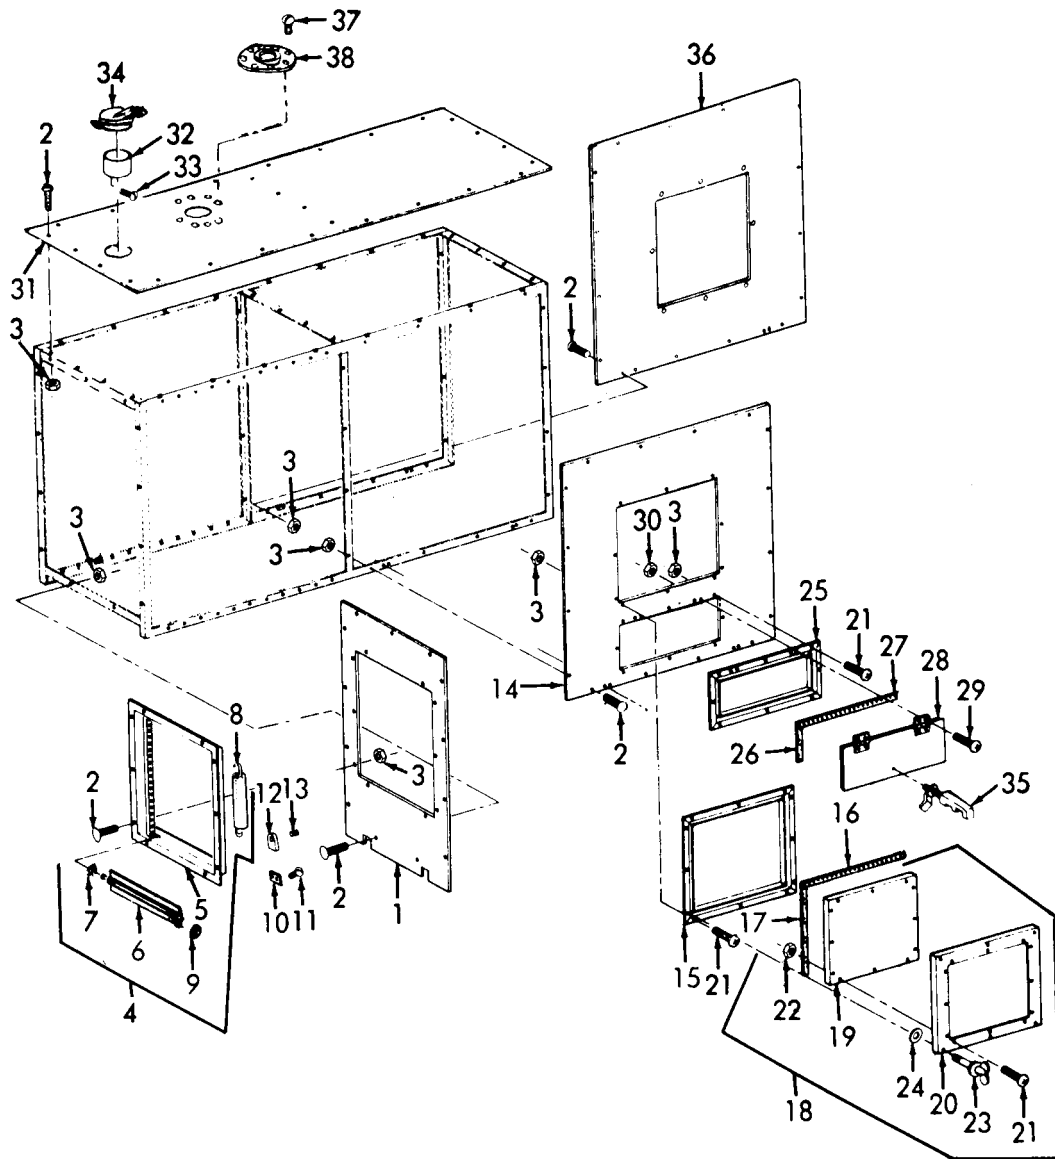

Figure 19-13. Compartment Panels and Access Doors.
- a. Removal (Refer to figures 19-13, 19-14, and 19-15).
- (1) Disconnect the shutter control cable from the shutter assembly by removing the snap ring that retains the cable clamping device to the shutter. Then, remove the four clamps that retain the cable to the left side of the engine enclosure.
- (2) Remove the ladder from its stowed position on the right side of the engine enclosure.
- (3) Remove the muffler (para. 11-2).
- (4) Remove the fuel tank assembly (para. 8-2).
- (5) Disconnect the front clearance lights at the trailer wiring harness.
- (6) Remove the four nuts, washers, and screws, that secure the engine enclosure to the trailer frame and brackets.
- (7) Attach a suitable lifting device and move the engine enclosure forward until the rear of the enclosure is free to move upward.
## LEGEND FOR FIGURE 19-13: